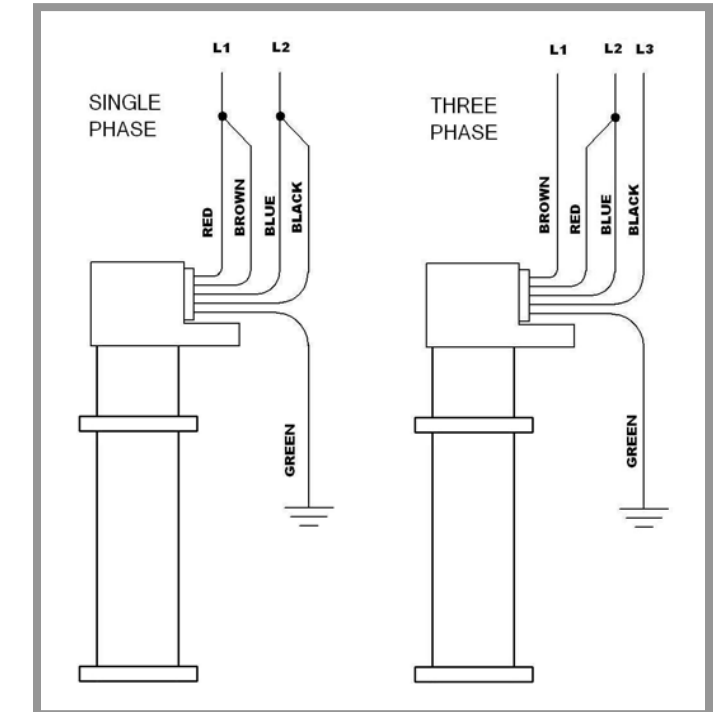

Figure 2: Single Heater Wiring (Single and Three Phase)
- Green/Yellow – ground leadPlease refer to figure 2 to illustrate single and three phase wiring for a single heater.